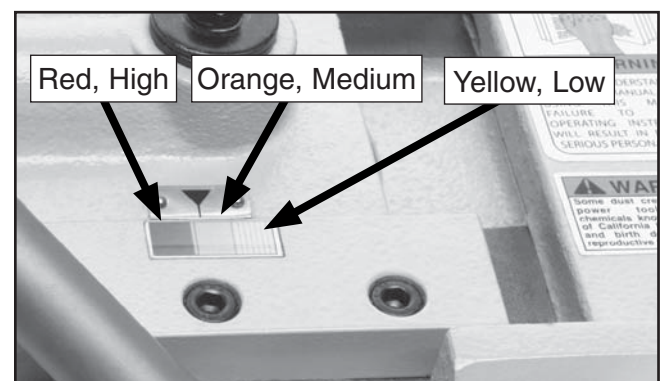

Figure 37. Blade tension scale.
2. Using the graduated scale on the blade tension indicator (**Figure 37**) turn the blade tension handwheel so the tension is in the orange range when using the saw. When the saw is not being used, adjust the tension to the yellow range.